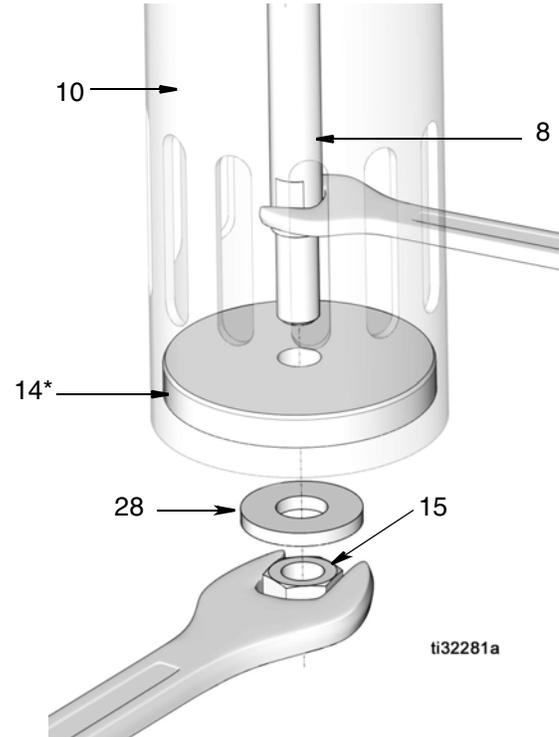

FIG. 6
4. Clamp the air motor base (21) in a vise horizontally by closing the vise jaws on the flange.
5. Insert a wrench through a slot in the foot valve (10) and secure it around the flats of the piston shovel rod (8). While holding the piston shovel rod securely in place, use a second wrench to loosen and remove jam nut (15). Remove washer (28), and priming plate (14) from shovel rod (FIG. 6).